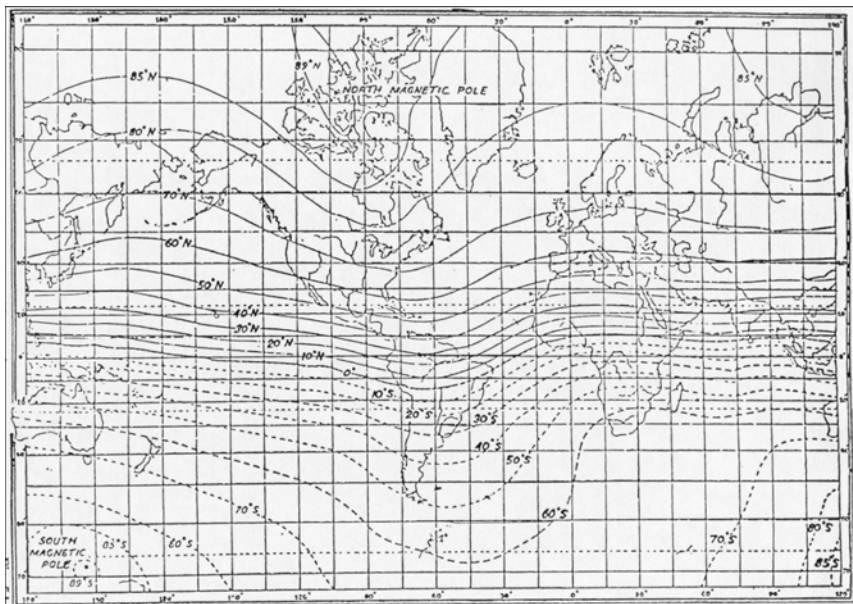

Figure 5 - Earth magnetic field inclination angle (degrees)
The Earth's magnetic field vector is pointing into the ground in the Earth's northern magnetic hemisphere, and out from the ground in the Earth's southern magnetic hemisphere. It is parallel with the ground at the Earth's magnetic equator. Note, that neither the Earth's geographic and magnetic poles nor the equators exactly coincide, as it can be seen in Figure 5.
- The ambient magnetic field inclination, g is defined as the angle between the horizontal and the field direction. The Earth's magnetic field inclination is a positive angle in the range from 0° to 90° in the Earth's Northern Magnetic Hemisphere and negative in the Southern Hemisphere. Its dependence on the geographic location is shown in Figure 5 on page 3-3.